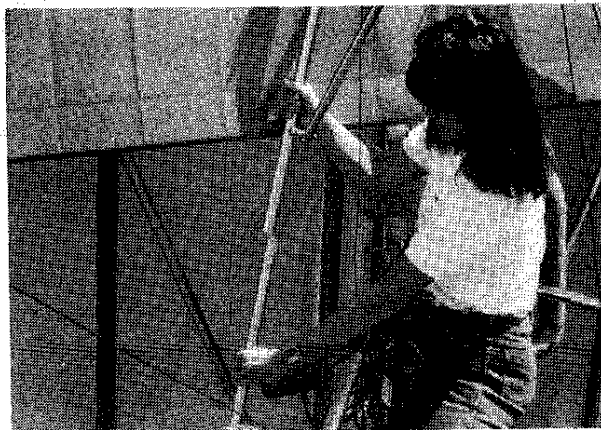

Figure 2.29
35. Insert right and left tail boom tubes into stabilizer tail mount. Be sure to rotate 1" channels on boom tubes towards wing tip. **Figure 2.29**